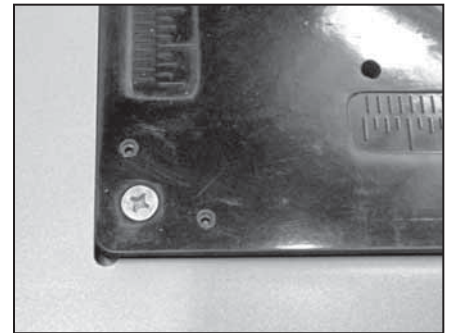

Figure 15
7. Insert 6mmx1.25x.20mm brass screws into each corner of the plate. Secure with matching nylon locking nut on the underside of the plate. Figure 15.